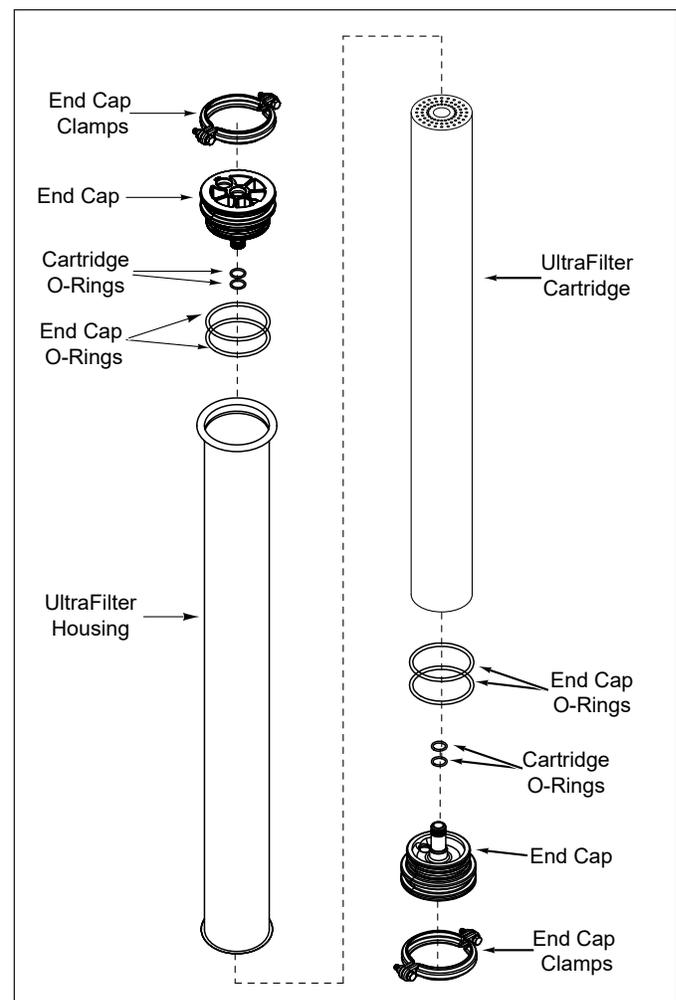

Figure 7. Replacing the Ultra Filter Cartridge
3. Remove either End Cap clamp hardware from the Ultra Filter Housing. (Figure 7)
6. Remove the End Cap (Figure 7) from the Ultra Filter Housing.